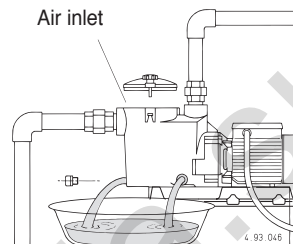

Fig. 4 Draining
**If the event of prolonged standstill periods or if freezing may be expected, drain the pump completely** by removing the two thumbscrew drain plugs with reusable O-ring gaskets (fig. 4).
Drain the pump casing before dismantling (see fig. 4 and section 12.). For dismantling and reassembly see construction in the cross-section drawing (section 15.).